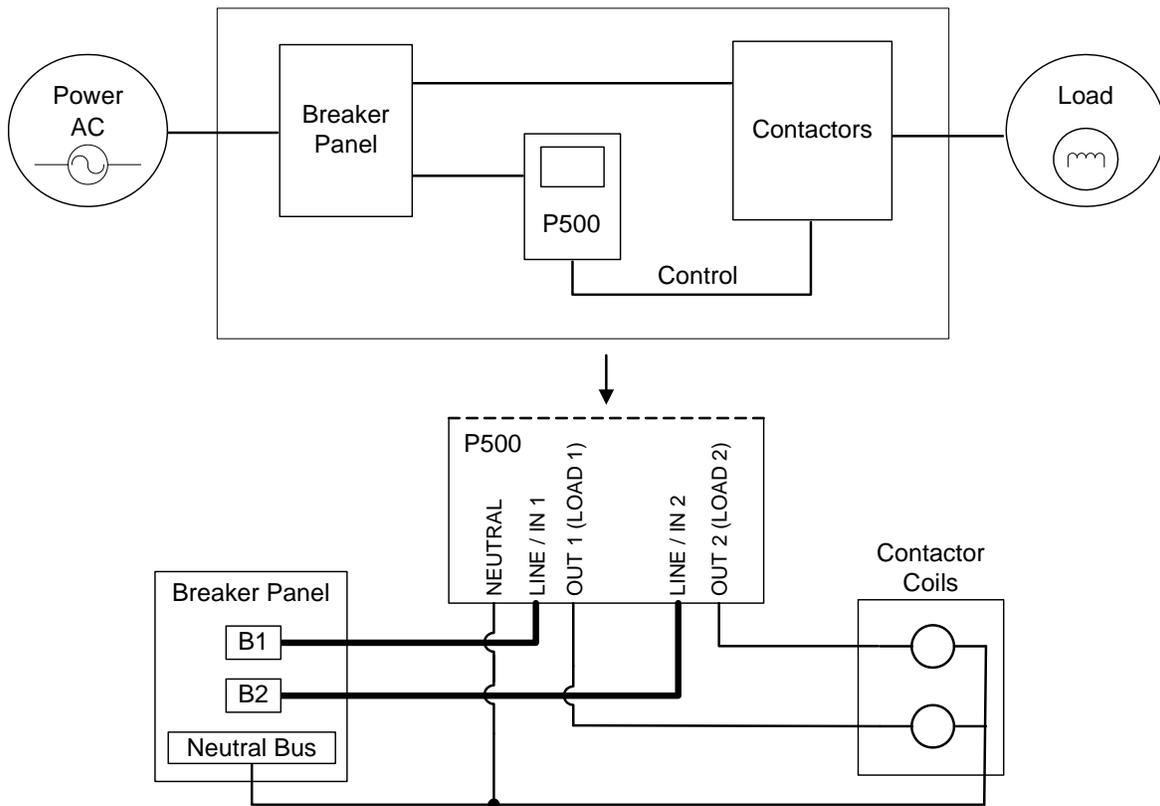

Figure 4
2. Connect power and load wires to the Profile P500 series controller input/output wires provided for you as shown in Figure 4.